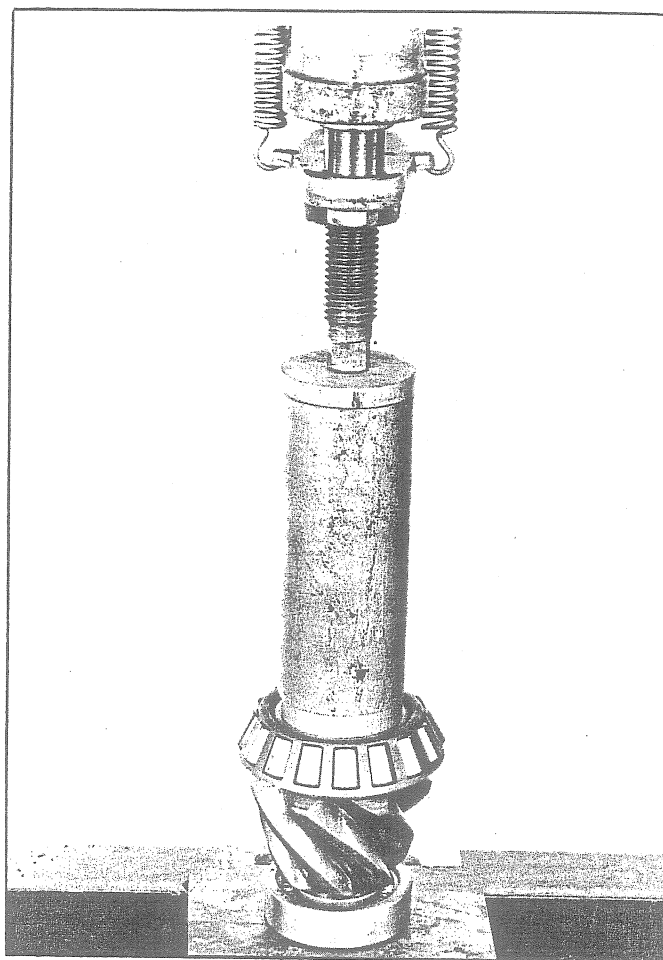

Fig. 56 - Pressing Center Bearing on Pinion Shaft
2. Press center bearing onto shaft as shown in Fig. 56.